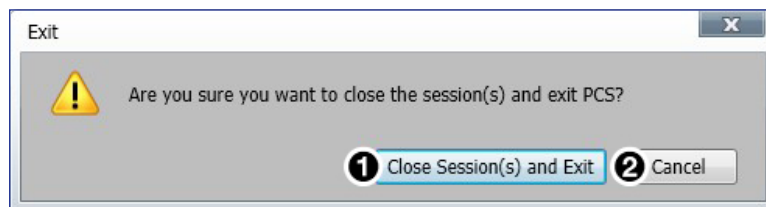

Figure 30. Exit Dialog Box
1. From the **Software** menu, select **Exit**. If device tabs are open, the Exit dialog box opens (see figure 30).